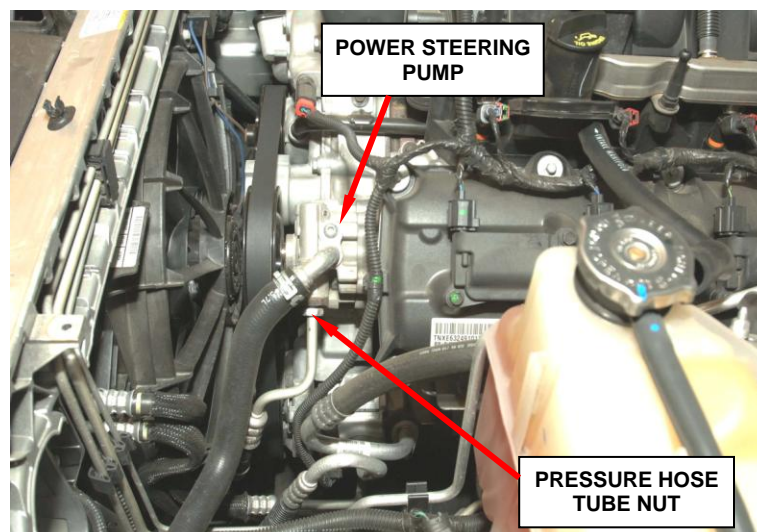

Figure 21 – Pressure Hose Tube Nut
5. Unthread the tube nut at the power steering pump and disconnect the power steering pressure hose (Figure 21).